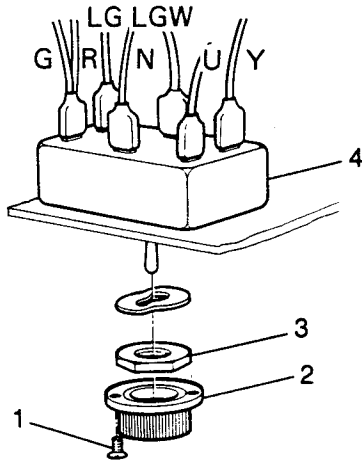

Fig O5.30
- (3) Refer to Fig O5.30. Remove the fixings (1) for the switch safety housing (2) and remove the housing.
- (4) Remove the nut (3) and wave washer from the switch knob.
- (5) Disconnect the leads from the back of the switch (4).
- (6) Withdraw the switch.